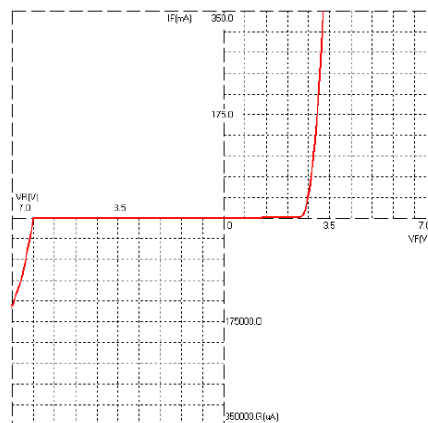

Figure 14. C3535 LED I-V curve
2. Check the polarity of the emitter. Reverse voltage and current may damage the Zener diode. Figure 14 shows the C3535 I-V curve in forward and reverse operation.